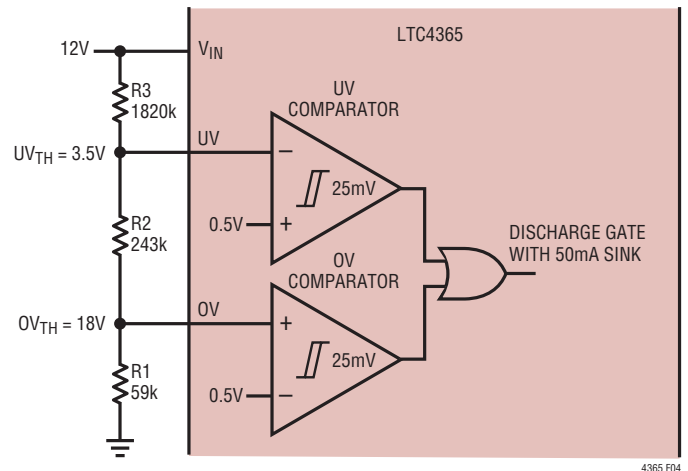

Figure 4. UV, OV Comparators Monitor 12V Supply
The LTC4365 provides two accurate comparators to monitor for overvoltage (OV) and undervoltage (UV) conditions at  $V_{IN}$ . If the input supply rises above the user adjustable OV threshold, the gate of the external MOSFET is quickly turned off, thus disconnecting the load from the input. Similarly, if the input supply falls below the user adjustable UV threshold, the gate of the external MOSFET also is quickly turned off. Figure 4 shows a UV/OV application for an input supply of  $12V$ .
The external resistive divider allows the user to select an input supply range that is compatible with the load at  $V_{OUT}$ . Furthermore, the UV and OV inputs have very low leakage currents (typically  $< 1nA$  at  $100^\circ C$ ), allowing for large values in the external resistive divider. In the application of Figure 4, the load is connected to the supply only if  $V_{IN}$  lies between  $3.5V$  and  $18V$ . In the event that  $V_{IN}$  goes above  $18V$  or below  $3.5V$ , the gate of the external N-channel MOSFET is immediately discharged with a  $50mA$  current sink, thus isolating the load from the supply.
The following 3-step procedure helps select the resistor values for the resistive divider of Figure 4. This procedure minimizes UV and OV offset errors caused by leakage currents at the respective pins.
The example of Figure 4 uses standard 1% resistor values. The following parameters were selected: